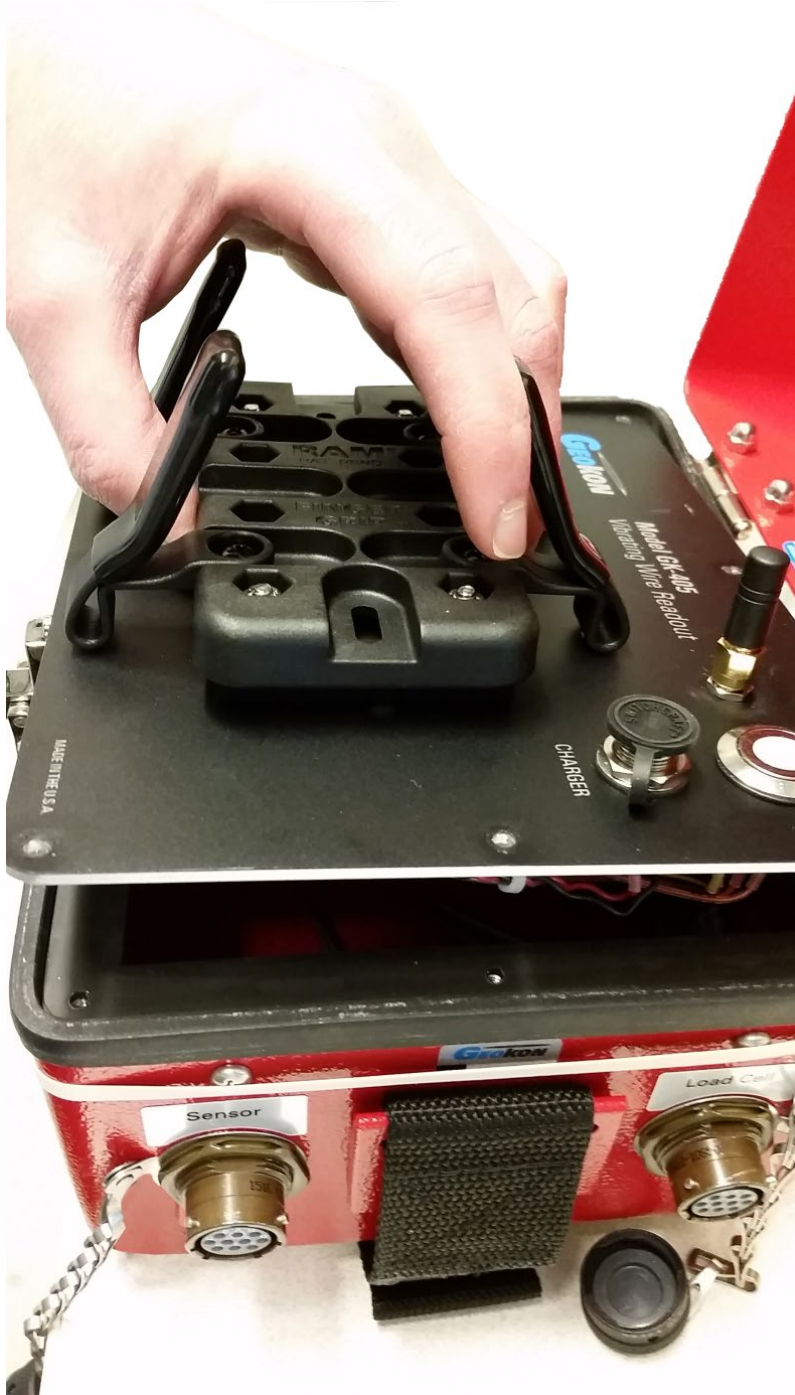

Figure 87 - Removing the Face Plate
- 2) Remove the faceplate by gently pulling on the readout unit cradle (Figure 87).